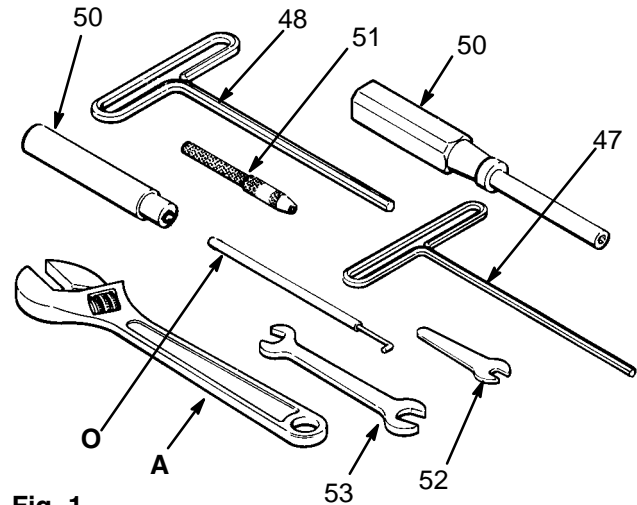

Fig. 1
- 3/16 in. hex, T-handle hex key wrench (48)
- 3/32 in. hex, T-handle hex key wrench (47)
- 7/16 in. x 1/2 in. open end wrench (53)
- Pin vise (51) for cleaning pin supplied with Needle/Nozzle Kits
- Nut driver (50)
- 1/4 in. open end wrench (52)
In addition, you will need to purchase an air valve hook (O) to service the air valve, a pressing tool (P) to service the piston (see **Accessories**, page 28), and a small adjustable wrench (A). See Fig. 1.